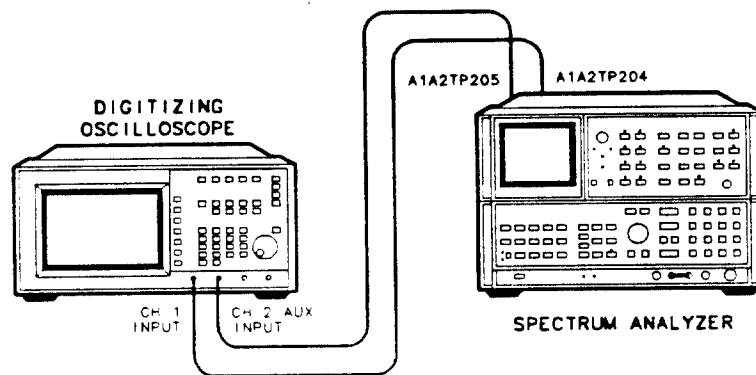
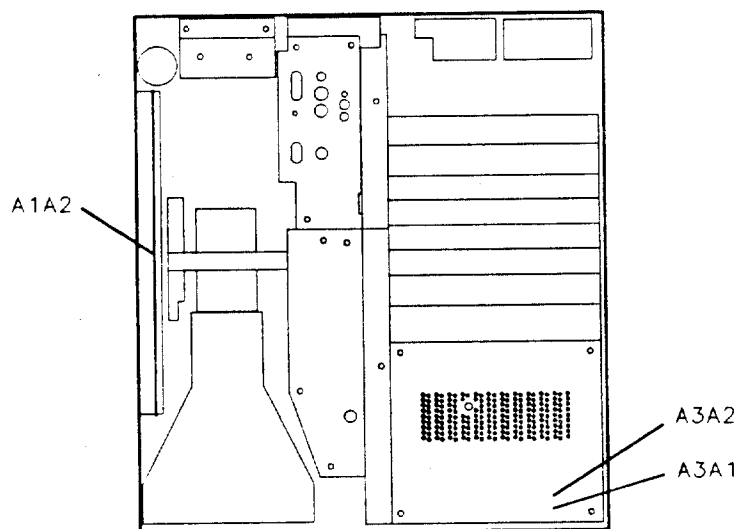

Figure 10. Preliminary Display Adjustments Setup
Figure 11. Location of A1A2 and A3A2
16. Connect the channel 1 calibrated 10:1 divider probe to A1A2TP204, and the channel 2 AUX probe to A1A2TP205, as shown in Figure 10. Connect the probe's ground leads to A1A2TP106. See Figures 11 and 12 for the location of the assemblies and adjustments.
17. Remove the cover over A3 Digital Storage section and remove A3A2 Intensity Control Assembly. Insert the display adjustment PC board (HP part number 85662-60088) in place of A3A2. See Figure 11 for the location of the A3A2 assembly.